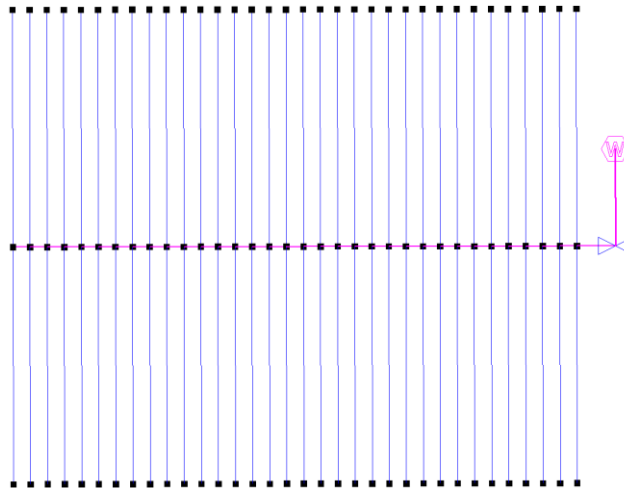

Figure 4-26
12. Select *Mainline/Water Supply* and place on the end of the mainline pipe with a left-click as in Figure 4-26. Leave the Water supply details as the default; simply click [OK].